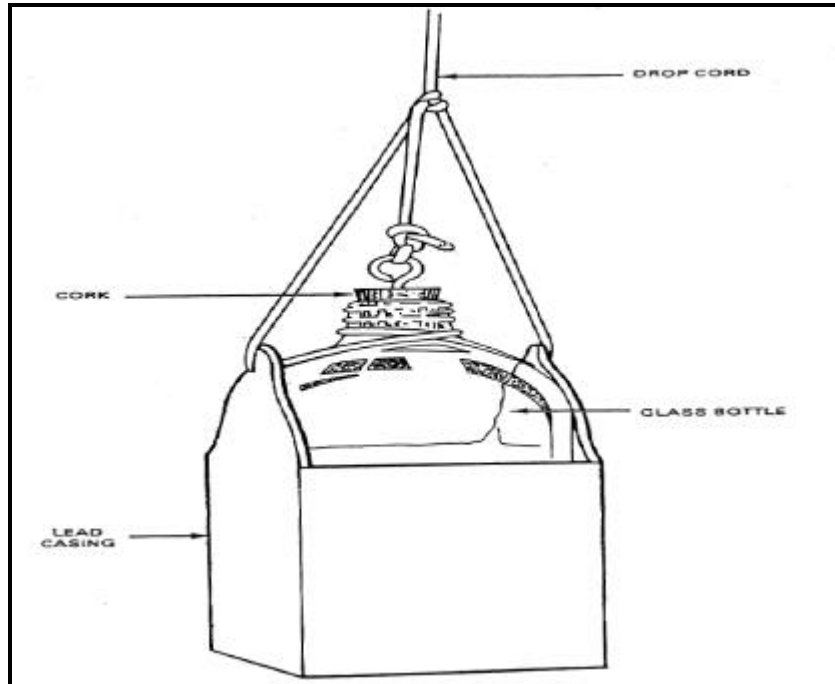

Figure 3-26. Weighted bottle plug sampler
- **Weighted Bottle Plug.** The weighted bottle plug sampler (Figure 3-26, page 3-28) is a glass bottle seated in and tied to a metal holder. This sampler is used in the same way as the weighted beaker sampler.